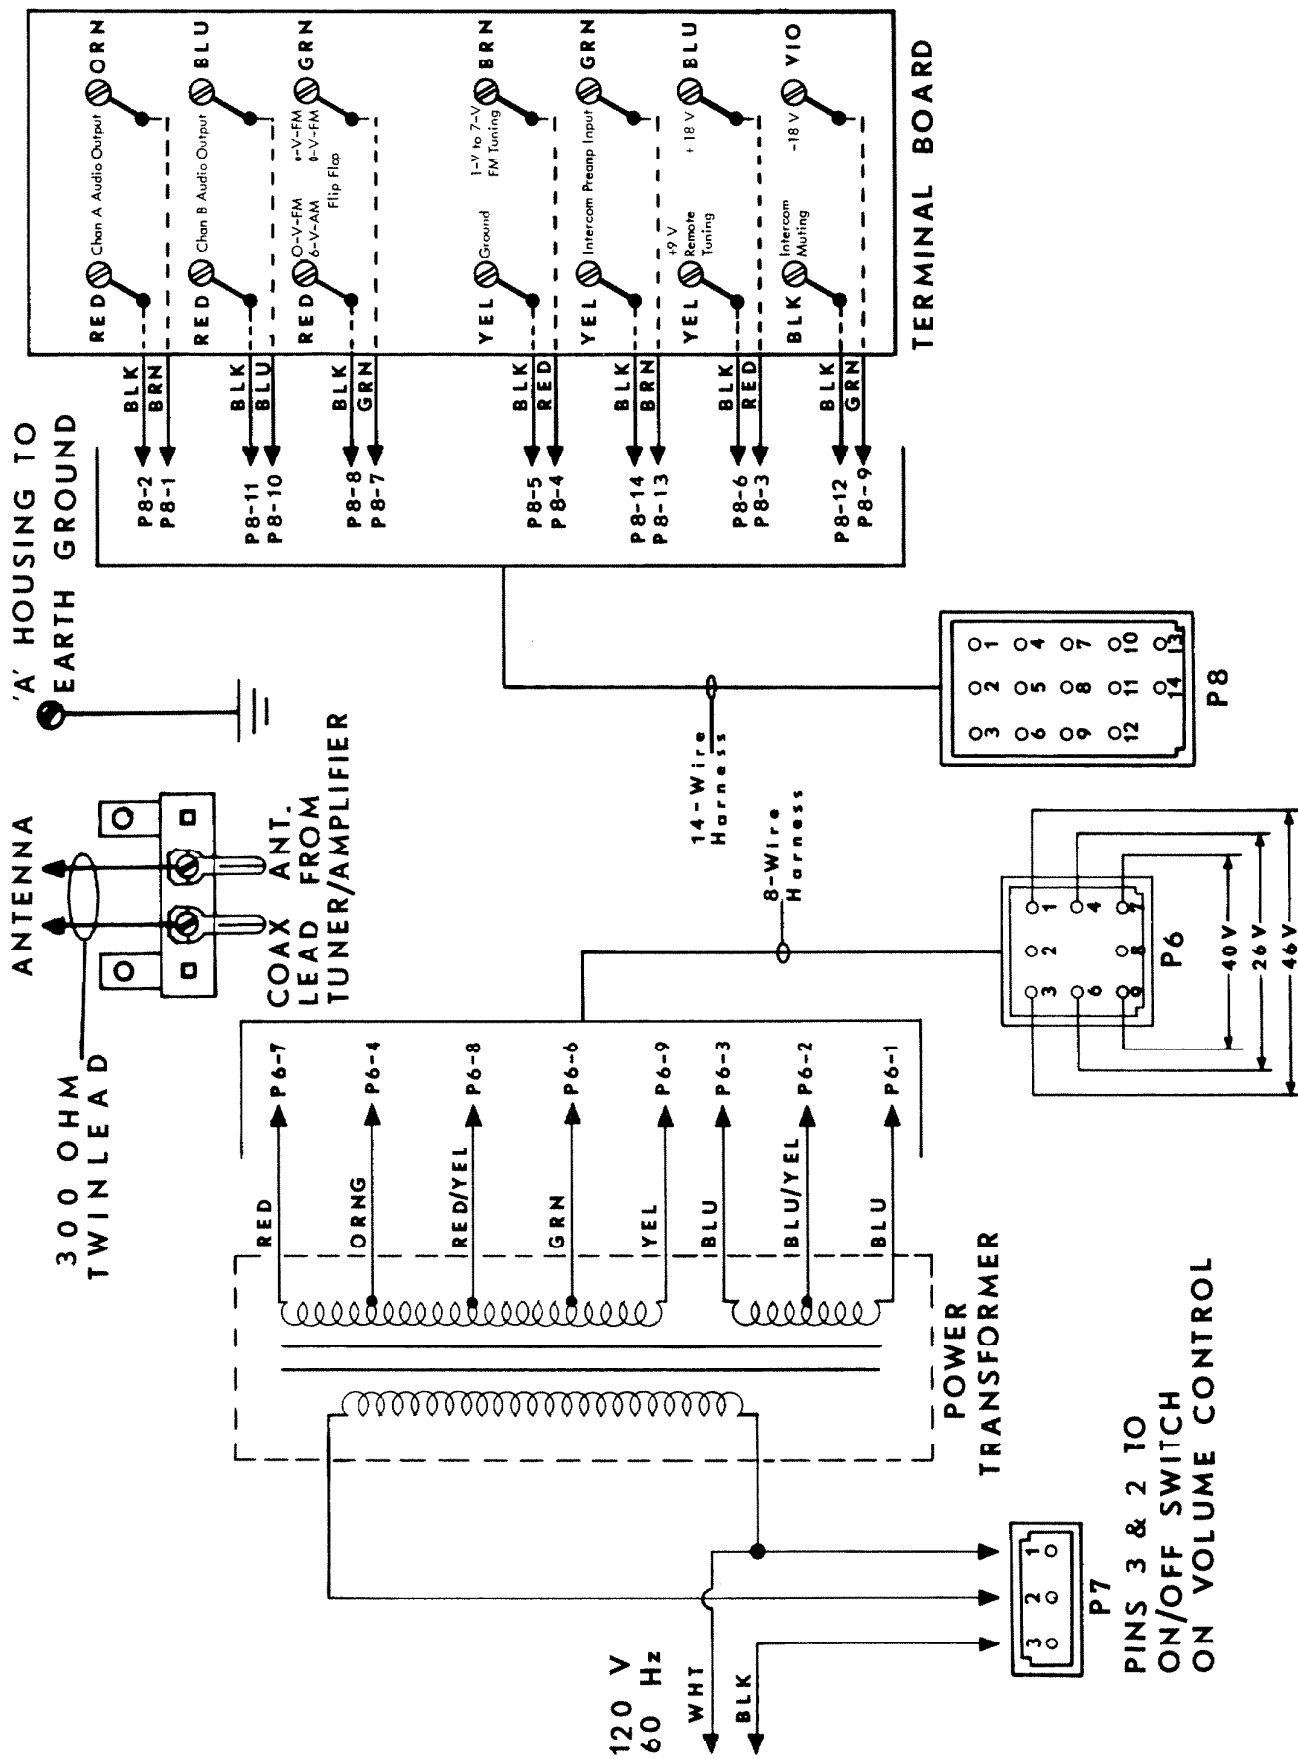

Fig. 1.6 — 2500-A/2600-A SCHEMATIC DIAGRAM
2. The "A" units include: power transformer; 7-twisted-pair-cable terminal board; antenna; and interconnecting plug and wire assemblies. (Fig. 1.6)
5. The power transformer secondary voltages (ac) may be measured at P6 as shown in Fig. 1.6.
These secondary voltages may be measured at P6 of the "A" Housing. (Fig. 1.6)